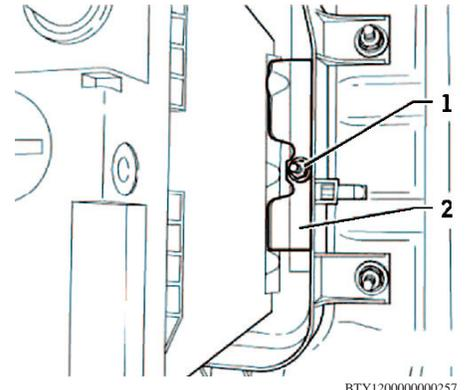

Fig. 7 Battery removal
11. Remove nut (1) and remove battery bottom rail bracket (2), **Fig. 7**.